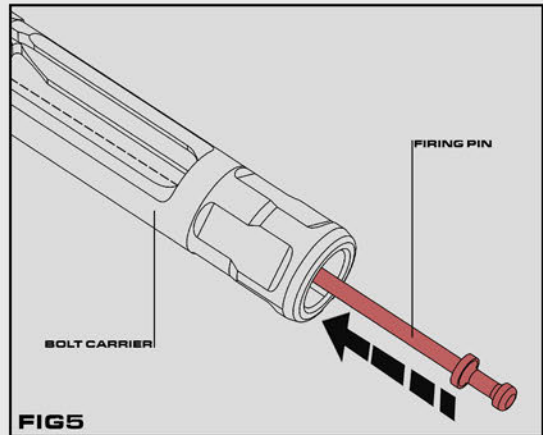
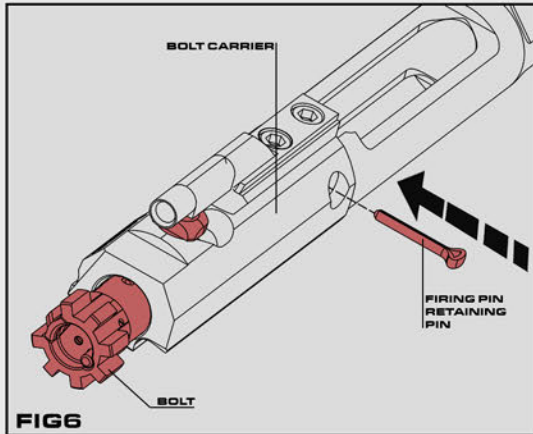

FIG5
FIG6
5. SLIDE IN THE FIRING PIN FROM THE REAR OF THE CARRIER THEN PULL THE BOLT STRAIGHT OUT UNTIL IT STOPS, MAKE SURE THE FIRING PIN IS FULLY FORWARD AND THEN INSERT THE RETAINING PIN. TEST THAT THE PIN IS CAPTURED BY GENTLY TAPPING THE BASE OF THE CARRIER ON A PROTECTED SURFACE. FIG5 & FIG6.